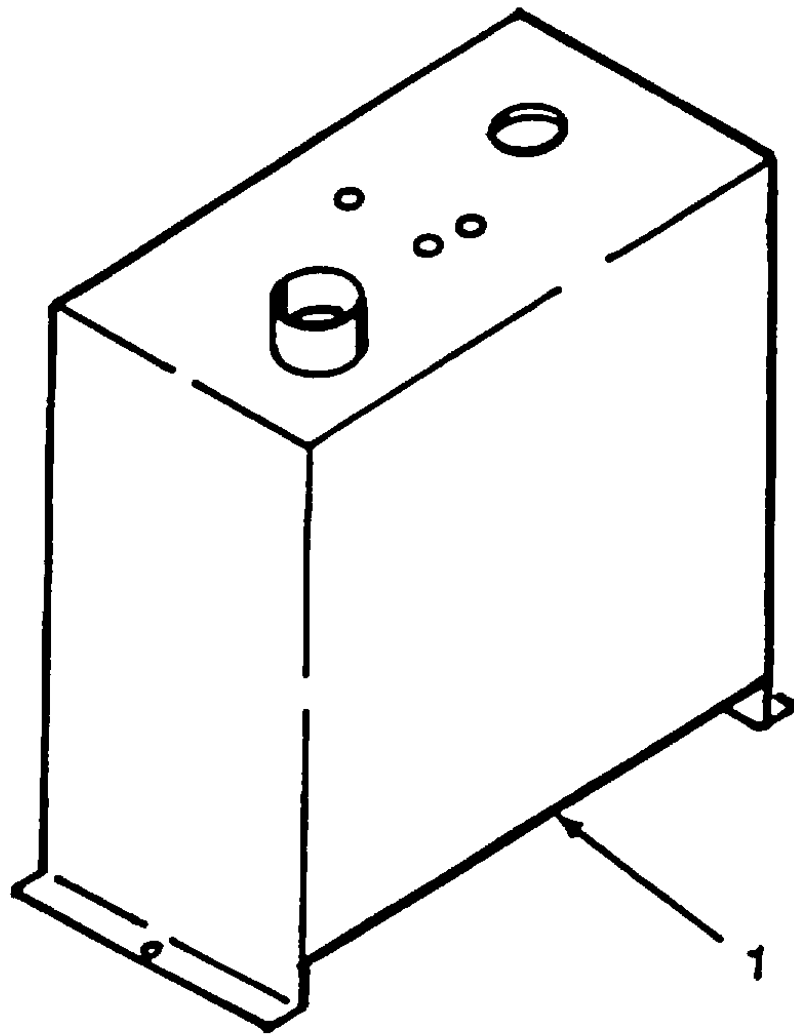

Figure 5-4. Fuel Tank
a. Repair. (Refer to Figure 5-4).
- (1) Thoroughly flush out fuel tank (1) with dry-cleaning solvent. Observe all warnings listed above.
- (2) Inspect fuel tank (1) for cracks or broken weldments, dents or distortion. Repair as required.
- (3) Clean off corrosion with wire brush, then repaint in accordance with TM 43-0139.
- (4) Fix dents as needed. (Reference FM 43-2).
- (5) Weld cracks as needed. (Reference TM 9-237).